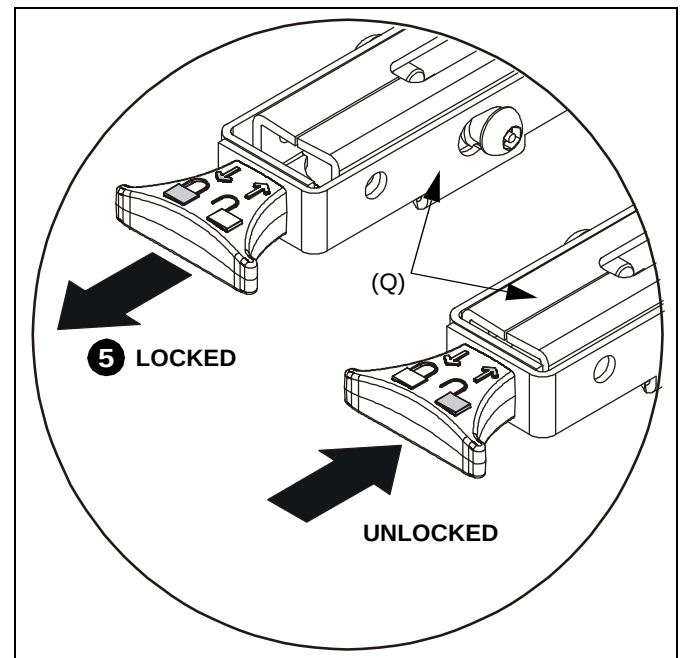

Figure 3
NOTE: Make sure interface legs (Q) are in the **UNLOCKED** position. (See Figure 3)
5. Ensure that interface leg is firmly seated over screw adapter, and pull out end of interface leg to lock in place over screw adapter. (See Figure 3)